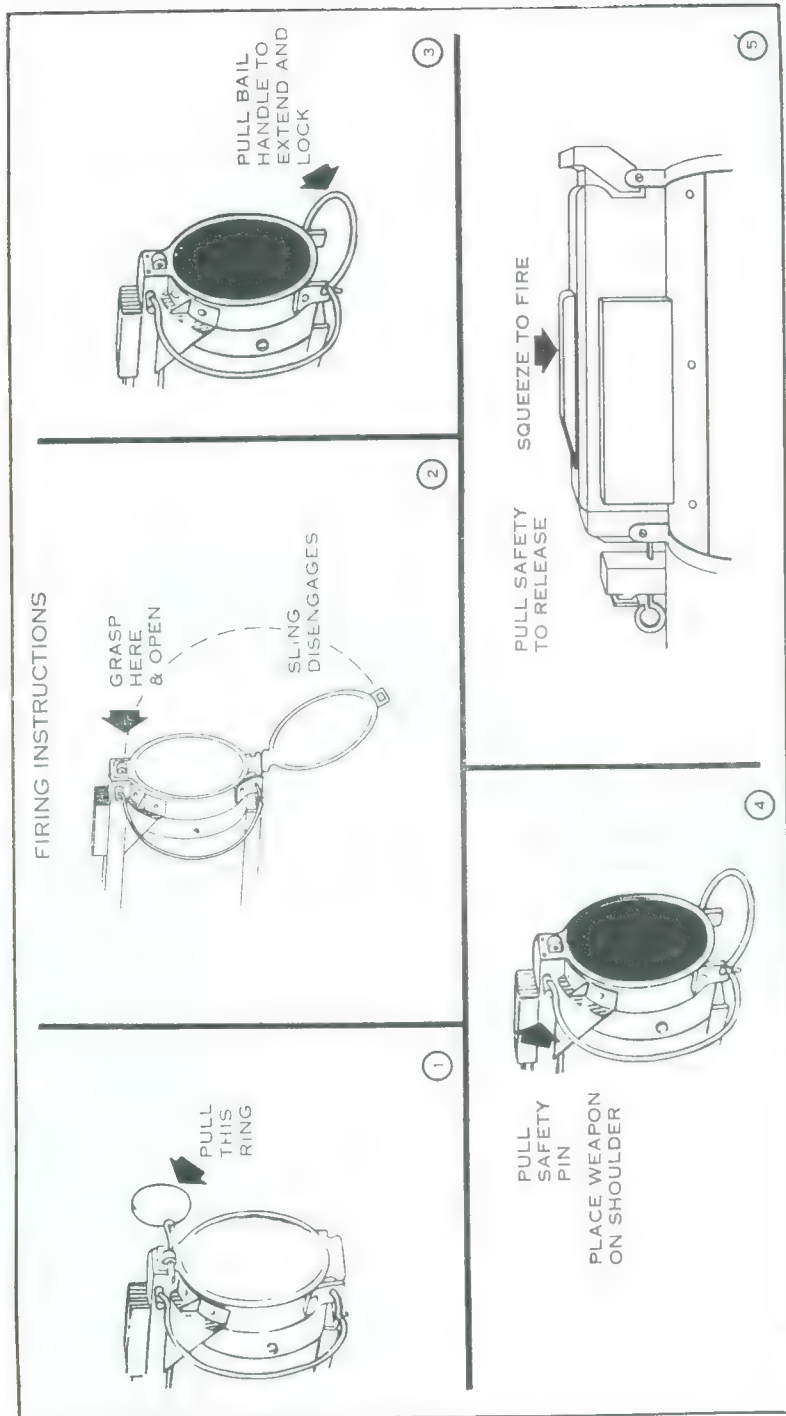

Figure 8. Firing instructions.
a. To prepare the M72 for firing, the gunner can refer to the illustrated firing instructions that are located on the left side of the launcher (fig. 8). The gunner must first check the sight setting, remove the rear cover retaining pin, rotate the rear cover downward, and allow the sling assembly (including the front cover) to fall free. To extend the launcher he grasps the bail handle and pulls to the rear until the detent locks the rear tube into position. The next step is to remove the rear safety pin and place the launcher on his shoulder. The trigger safety is then pushed forward to the release position, and the gunner aims and depresses the trigger bar. Once the M72 has been fired the launcher and the sling assembly are discarded.